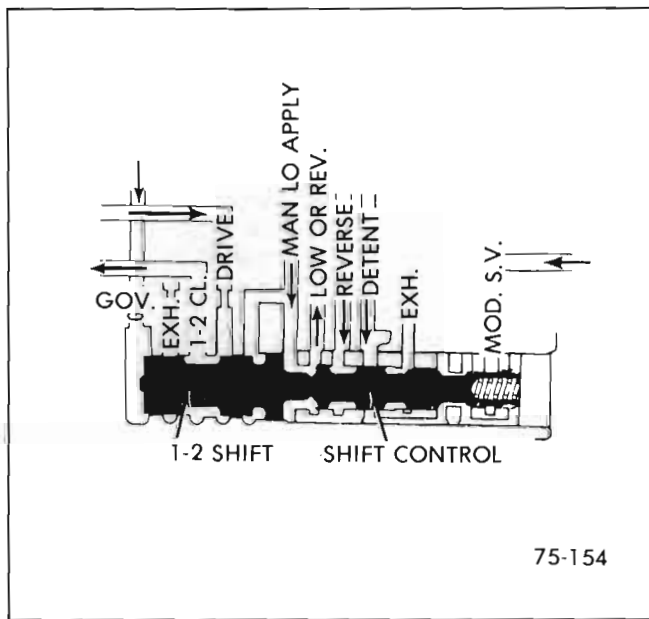

Figure 75-22 - 1-2 Shift Valve
**I. 1-2 Shift Valve (See Figure 75-22)**
Routes oil pressure that causes the transmission to shift from 1-2 or 2-1. Its operation is controlled by governor pressure, detent pressure, modulator pressure, and spring force. See Figure 75-22.